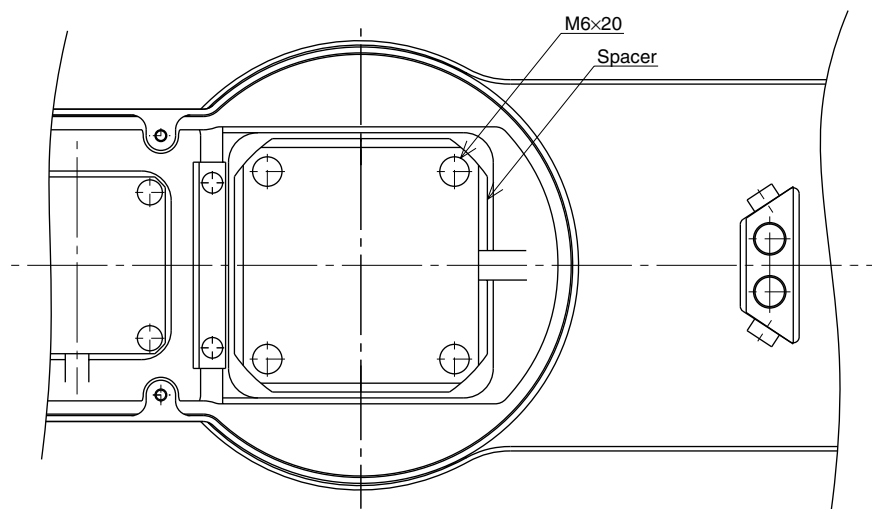

Fig. 5-41
- 7) Remove the Y-axis motor installation bolts (M6×20L, 4 pieces) and then remove the Y-axis motor by swaying it gently right and left.(See Fig. 5-41.)
(See Fig. 5-41.)